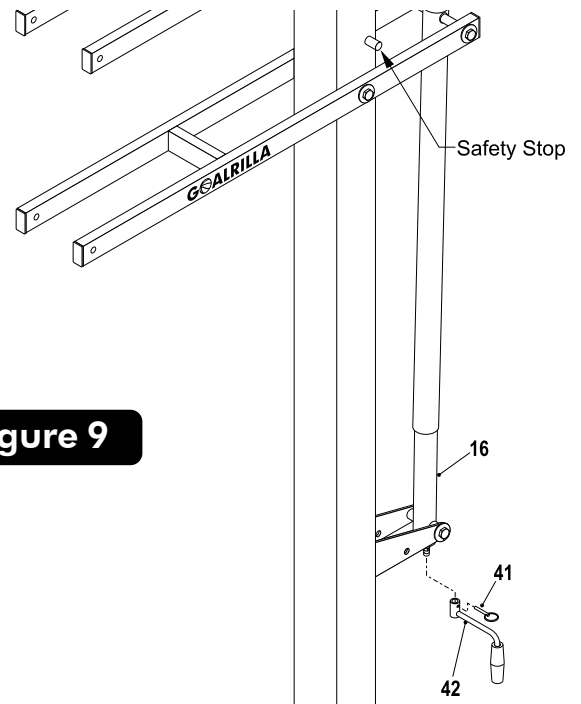

Figure 9
- Slide Actuator Crank (#42) onto shaft on the bottom of Actuator (#16). Line up hole in shaft with hole in Actuator Crank and insert Pin (#41) to secure. See Figure 9.